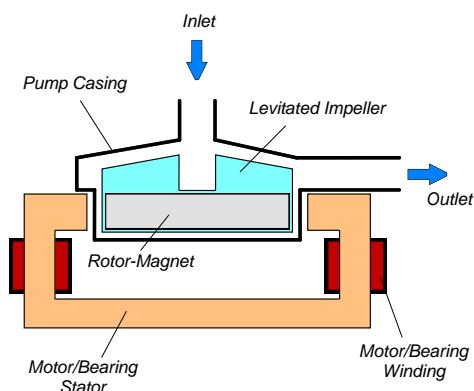
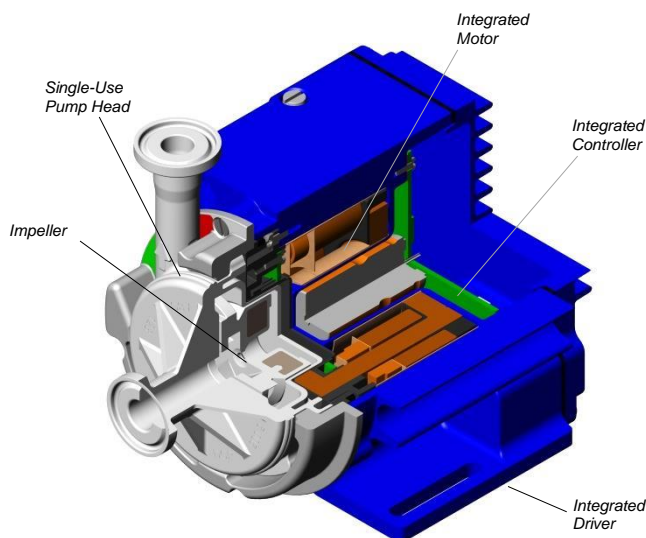
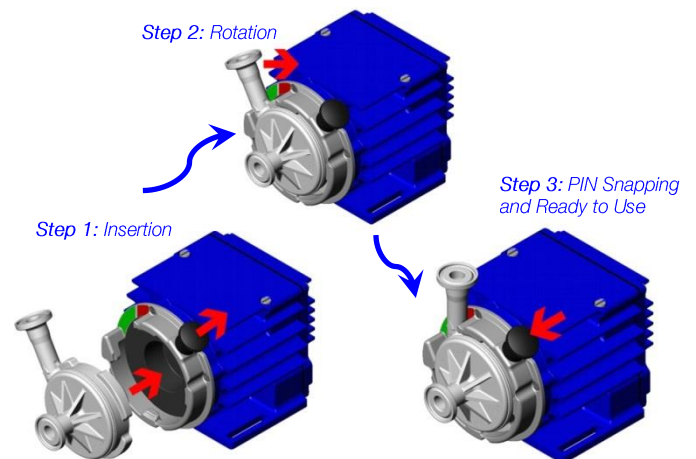

Figure 1: Schematic of the main elements of the MagLev centrifugal pump
Figure 2: Integrated MagLev pump driver with single-use pump head
Figure 6: Intuitive 3-step pump head mounting procedure with bayonet type socket (PHS-i100.1)
Levitronix® has developed a revolutionary pump that has no bearings to wear out or seals to break. Based on the principles of magnetic levitation, the pump's impeller is suspended, contact-free, inside a sealed casing and is driven by the magnetic field of the motor (Figure 1). The impeller and casing are both fabricated from biocompatible (FDA, USP-VI, BSE/TSE and Animal free) gamma sterilizable polypropylene (PP) and together they make up the disposable pump head. A simple and intuitive exchange of the single use pump head is achieved with a bayonet socket type mounting procedure (see Figure 6). Flow rate or pressure is precisely controlled by electronically regulating the rotor speed, which eliminates any pulsation. With the lack of mechanical bearings plus the self-contained pump head design, the risk of contamination is drastically reduced. The absence of narrow gaps between the impeller and pump casing, plus the low-shear pump design allows the gentle pumping of sensitive liquids. The pump housing is fabricated with Triclamp fittings and can be easily inserted and removed with an intuitive bayonet socket. The controller and the motor are integrated into the driver housing (see Figure 2), hence cabling effort is reduced.
- Bayonet socket design for easy and intuitive exchange of disposable pump head (see Figure 6).